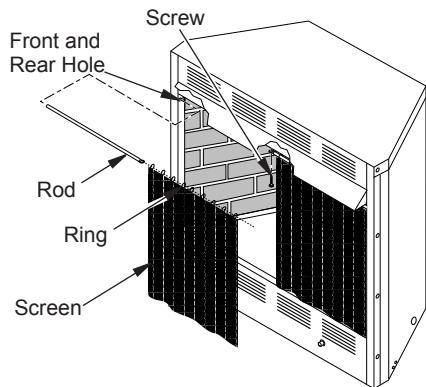

Figure 14 - Installing Fireplace Screen
1. Insert each rod through 9 rings located at top of screen (see Figure 14).